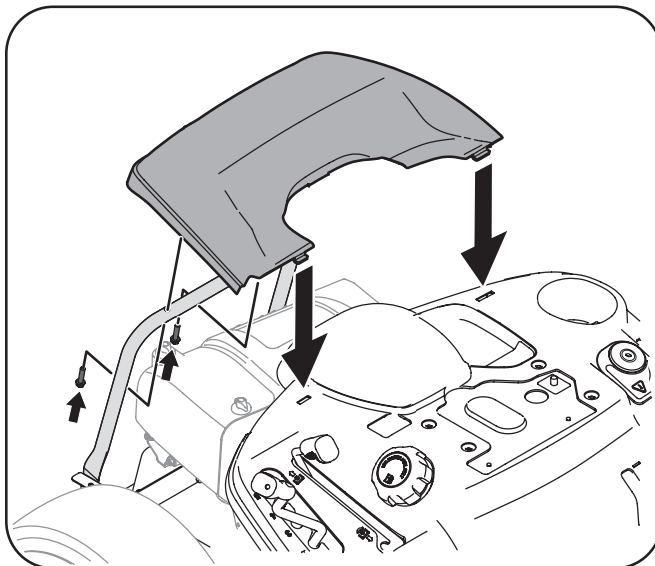

Figure 3-11
1. Remove the two factory installed hex screws located on the rear engine cover. Retain the screws for later instructions. See Figure 3-11.
1. Remove the factory installed hitch plate mounting hardware located on the rear of the tractor. See Figure 3-11.